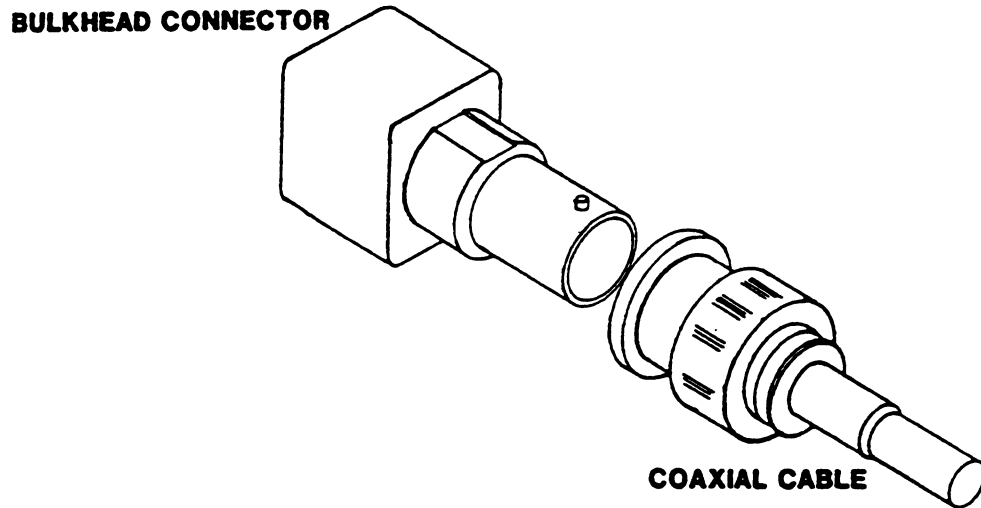

Figure 2-9. Connecting Coaxial Cable to Bulkhead
- 1. Using an RG-62A/U coaxial cable terminated with BNC connectors, firmly push one of the connectors onto the host computer bulkhead connector (figure 2-9). Ensure that the pins on the outside of the bulkhead connector slide all the way into the slots on the cable connector.**